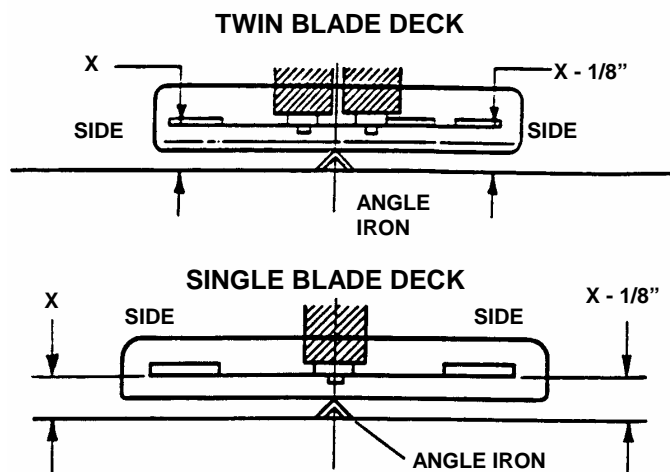

FIGURE 4.7
- Measure the distance from blade tips to floor. If the measurement is within 1/8" from side-to-side, the deck levelness is satisfactory. If the difference from side-to-side is greater than 1/8", continue to the next page for adjustment. See Figure 4.7.